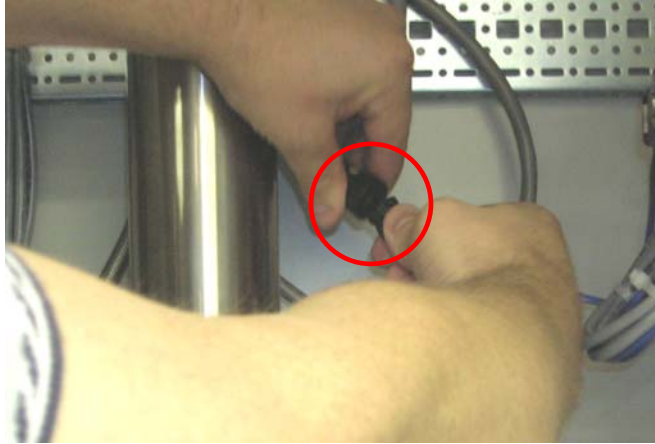

Figure 54 Unplugging the Conexal Plug
5. Turning the lock ring counterclockwise, unplug the Conexal plug. (Refer to Figure 54.)